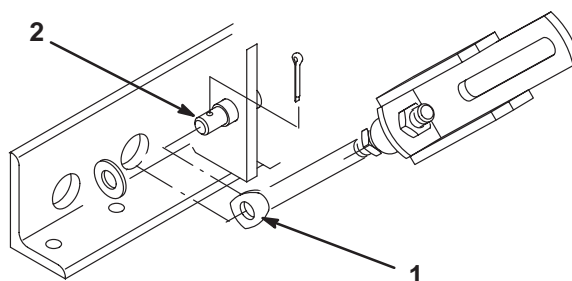

Figure 4
3. Mount the rod ends of the lift arm adjuster assemblies to the mounting pins on the angle and sweep assemblies with washers and cotter pins (Fig. 4).